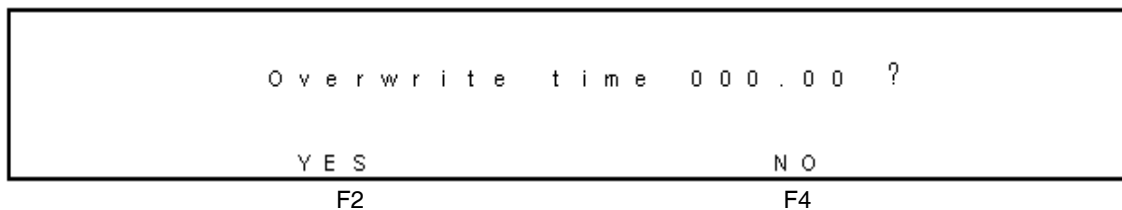

Figure 3-29 Overwrite Time Screen
- c. Select **F2 ADD**. The Overwrite Time 000.00 screen appears (Figure 3-29).